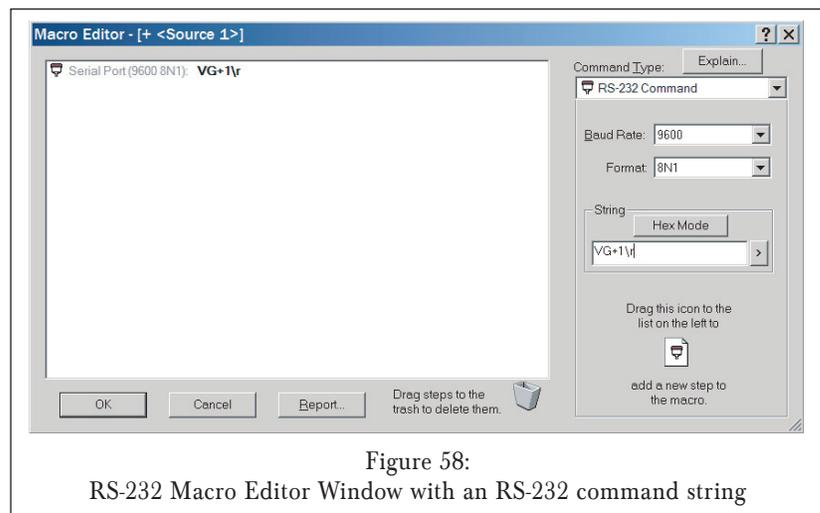

Figure 58:
*Figure 58* shows the RS-232 Macro Editor window with a sample RS-232 ASCII text macro command string.